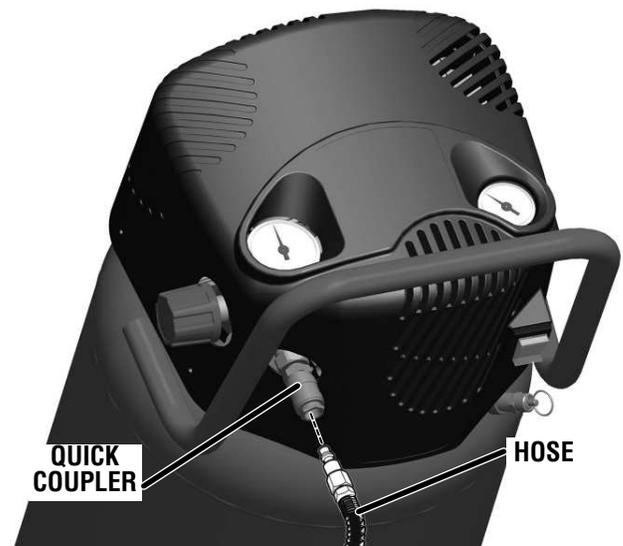

Fig. 6
See Figure 6.
- Insert the hose into the quick coupler already installed on the compressor (Fig. 6).